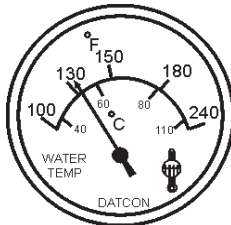

Figure 52. Coolant Temperature Gauge
16. The _____ (Figure 52) will indicate the coolant temperature. Under normal operating conditions the coolant temperature should be between 180~230°F (82~110 °C)